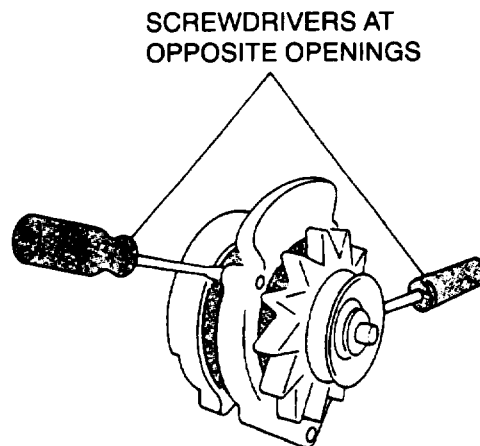

Figure 4-1. Housing Separation
- h. Insert two flat tip screw drivers in opposite openings between stator (21) and rear housing (19) and pry units apart, refer to Figure 4-1.